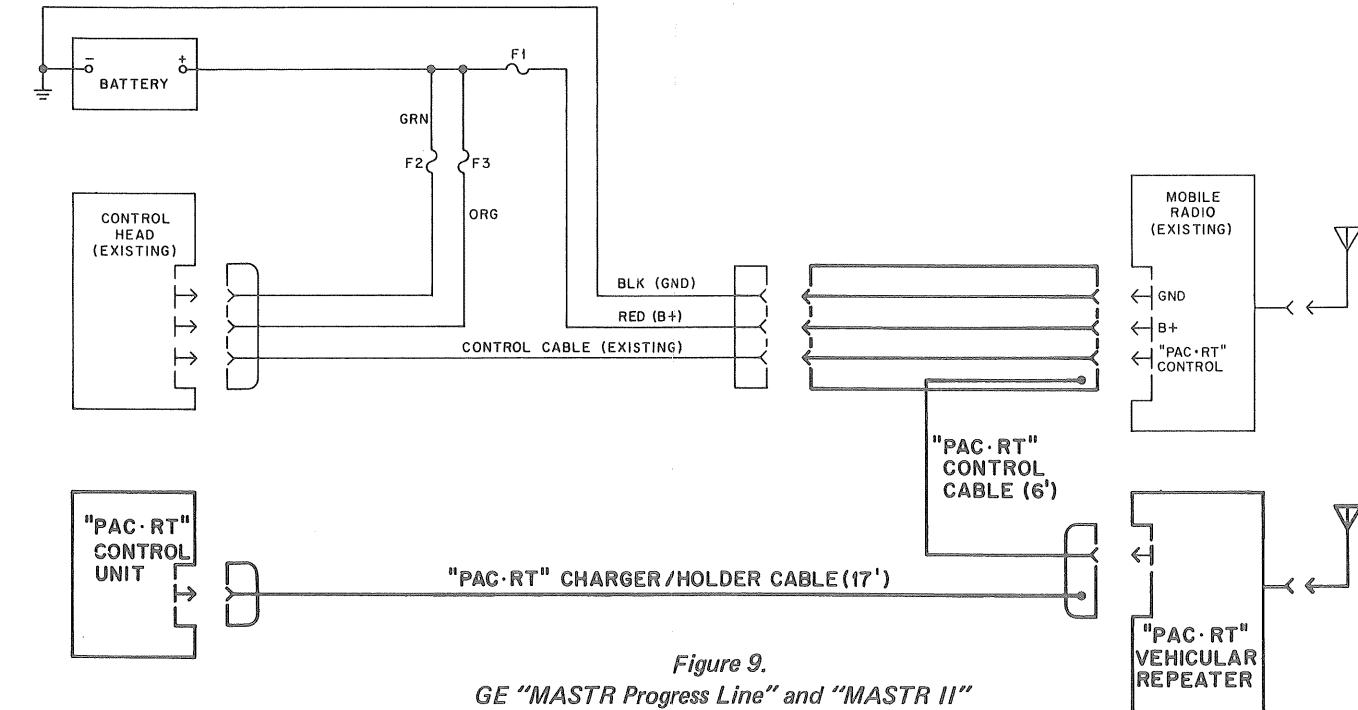

Figure 9.
- Disconnect the plug from the existing mobile radio and connect it to the male plug as shown in Figure 8 or Figure 9 for the specific mobile radio used. In Figure 8, the plug is on a two-foot piece of cable; in Figure 9, it is a feed-through connector.